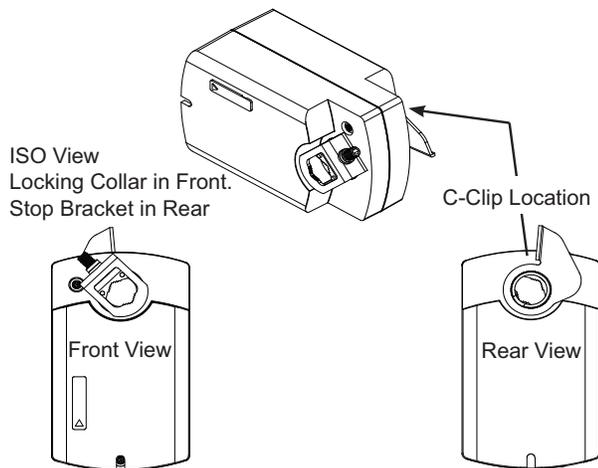

Fig. 6 — Multiple Views of Actuator
12. To limit the maximum open position of the damper to the amount of desired Ventilation Air from Step 10, the Rotation Limiter may need to be relocated. The adjustment is made by removing the C-Clip holding the Limiter, which is on the backside of the Actuator, and repositioning the bracket. This may require the removal of the Actuator. Re-install the Limiter at the desired position, then reinstall the C-Clip seen in Fig. 6. This adjustment can be made through the RTU Horizontal Return Panel to access the Actuator.